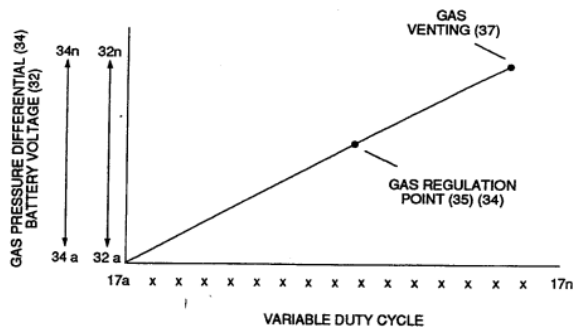

FIGURE 3-15: GAS REGULATOR CONTROL
If **gas pressure** (34a xx) should exceed **gas point** (35) during injector off-time, **gas pressure release valve** (75) of Figure (3-24) (**gas venting** 37 of Figure 3-15) expels **Fuel gases** (88) until **gas point** (34) is either reached or a delay timing circuit activates **Safety Control Circuit** (14) of Figure (3-6) which, in turns, switches off or disconnects **applied electrical power** (28) to **Fuel Cell electrical system** (400) of Figure (3-6).